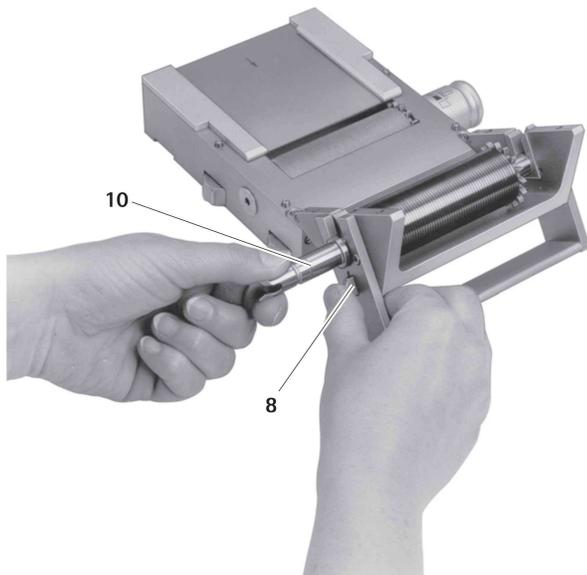

Fig. 3
- ▶ Hold down lock 8 and, at the same time, pull at shaft 10 to decouple cutting cylinder 2, see Fig. 3.
- ▶ Hold cutting cylinder 2 at shaft 10 and press it into bearings 20 until it clicks into position, see Fig. 3.